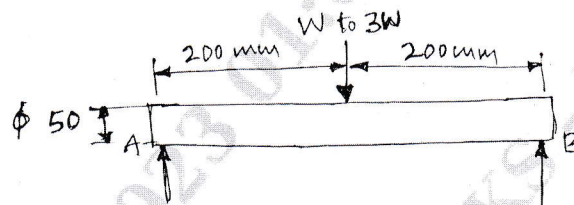

Fig.Q4(b)
b. Determine the maximum load for simply supported beam cyclically load as shown in Fig.Q4(b). The ultimate strength is 700MPa, the yield point in tension is 520MPa and the endurance limit in reversed bending is 320MPa. Use a factor of safety of 1.25. The load, size and surface correction factors are 1, 0.75 and 0.9 respectively.